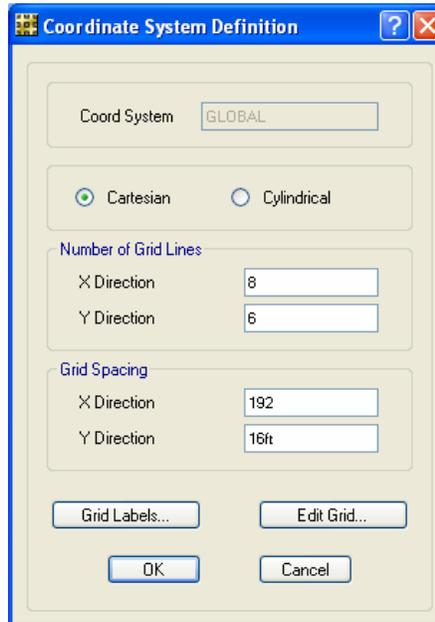

Figure 53 Coordinate System Definition form
- C. In the Initial Model area, click the **Grid Only** button to display the Coordinate System Definition form shown in Figure 53. This form is used to specify the number of grids and spacing in each direction. It
2. As shown in Figure 53, set the Number of Grid Lines in the X Direction to **8** and in the Y Direction to **6**.